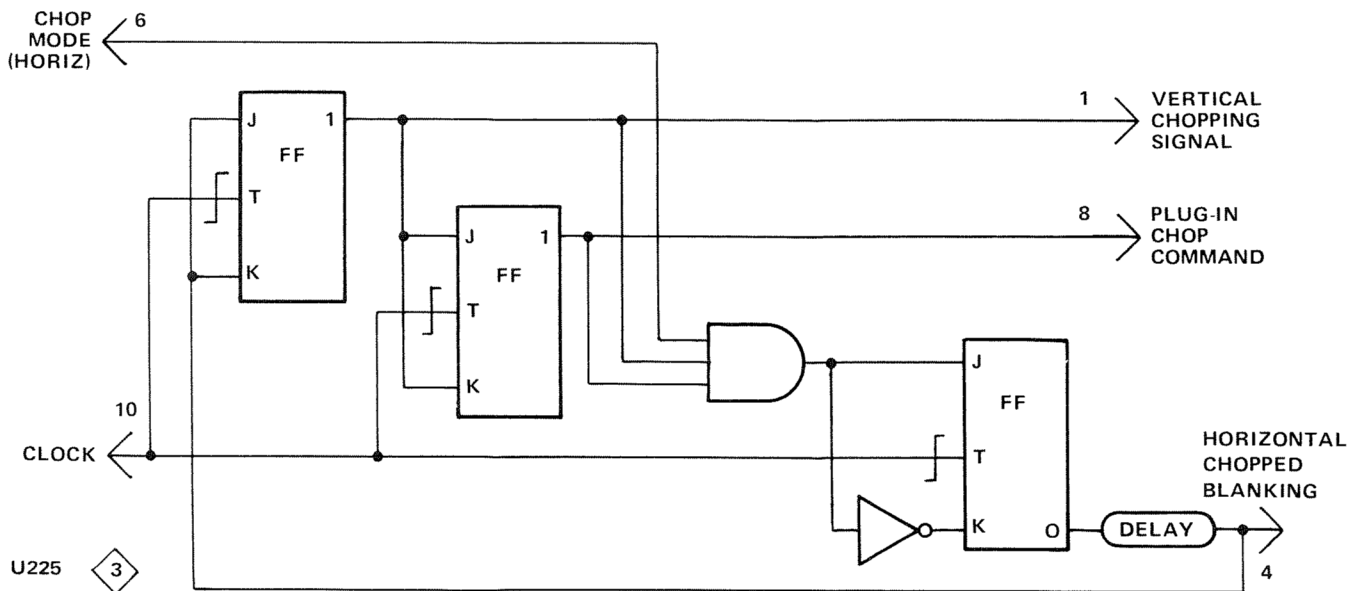

Fig. 1-19. Logic diagram of Chop Counter stage.
A logic diagram of the Chop Counter stage is shown in Fig. 1-19. Details of operation for the flip-flops (FF) are shown in Table 1-1 at the front of this section. Use the waveforms given in Fig. 1-18B along with this diagram.